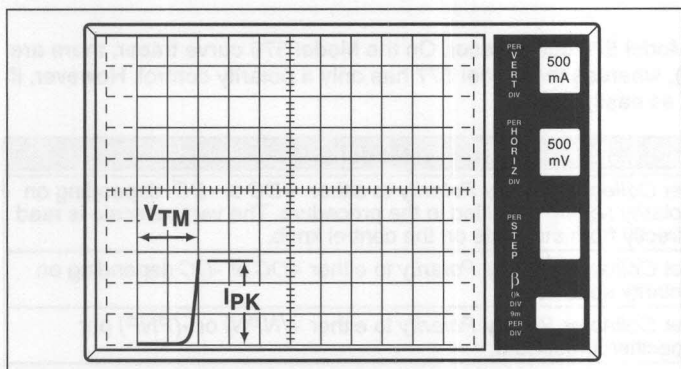

Figure 19.23 V_{TM} (Forward) is equal to 950mV at I_{PK} equal to 1.4 amps
3. To measure V_{TM} , follow along horizontal scale to the point where the trace crosses the $I_{T(peak)}$ value. This horizontal distance is the V_{TM} value. (See Figure 19.23.)